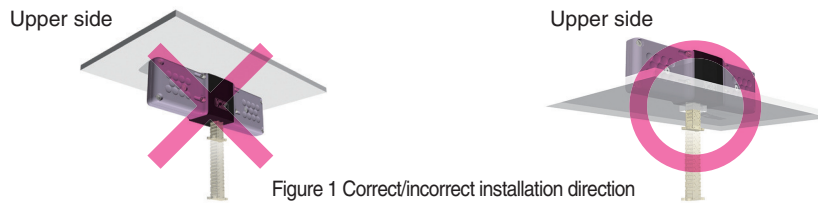

Figure 1 Correct/incorrect installation direction
2. The ZCA can be installed in the vertical lifting or hanging directions or horizontally. However, when it is installed horizontally or in a hanging position, do not allow the weight of the unit and the weight of conveyed items to be placed on the mounting bolts. If the unit operates in such a condition, it may result in damage to the unit. Install the unit in a manner that prevents the mounting bolts from receiving any the load.(Figure 1)